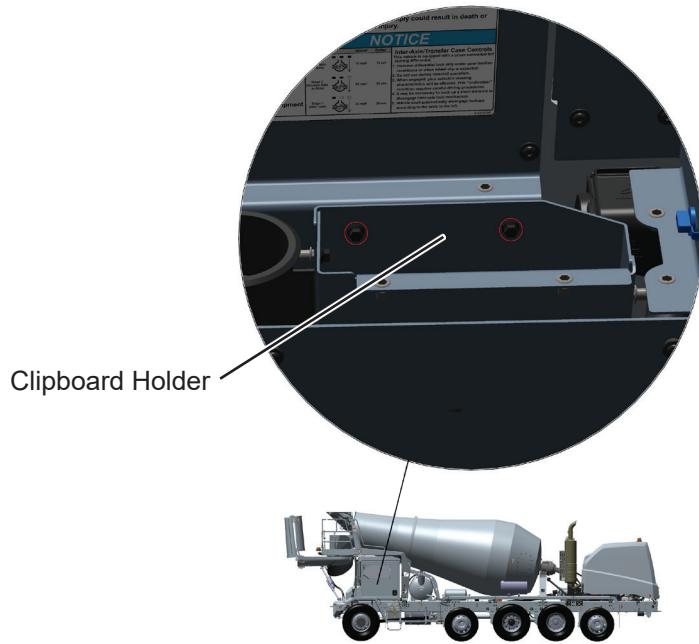

Figure 15
28. Reinstall clipboard holder with two screws and washers removed in Step 16. See Figure 15. Final tighten